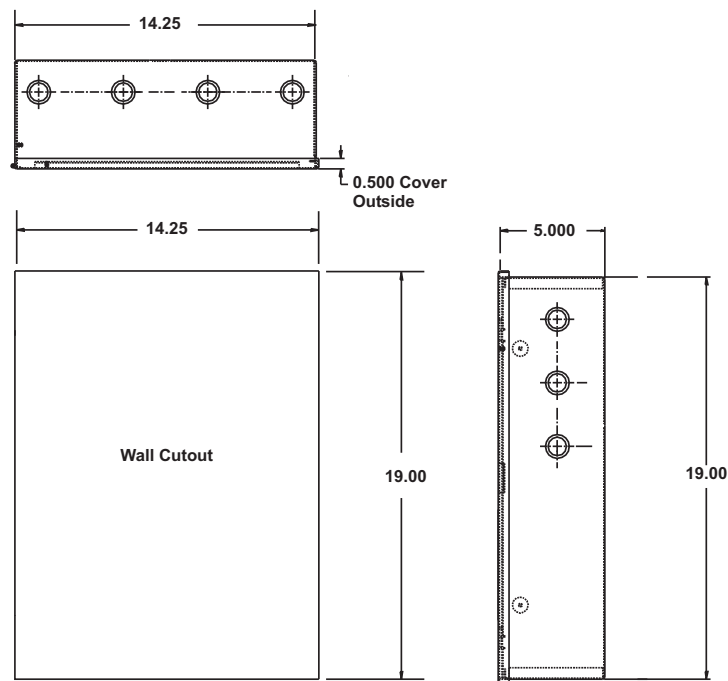

Figure 2-3. Semi-Flush Mounting Dimensions
2. Position and plumb the back box in the opening made in Step 1. Ensure that the front edge of the back box is at least 3/4 inches from the surface of the wall. Refer to Figure 2-3. Secure the back box to the wall with appropriate mounting bolts (up to size 1/4-20).